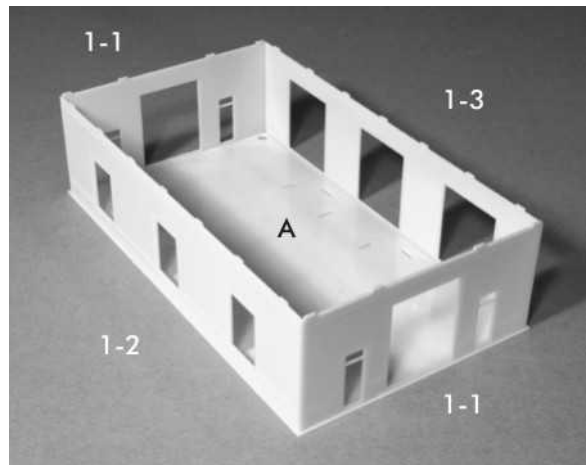

Figure 2
Working clockwise, next insert the tabs of the “turbine” side (1-2) into the slots of part (A) and glue in place. The two walls should meet and be glued at the corner. Insert the tabs of the other “end” wall (1-1) into the slots of part (A) and glue in place. Then, insert the tabs of the “generator” side (1-3) into the slots of part (A) and glue in place to form a box. Make sure to glue all the corners together. You may test fit part (B) to make certain that the walls are square, **but do not glue** in place. See Figure 2.